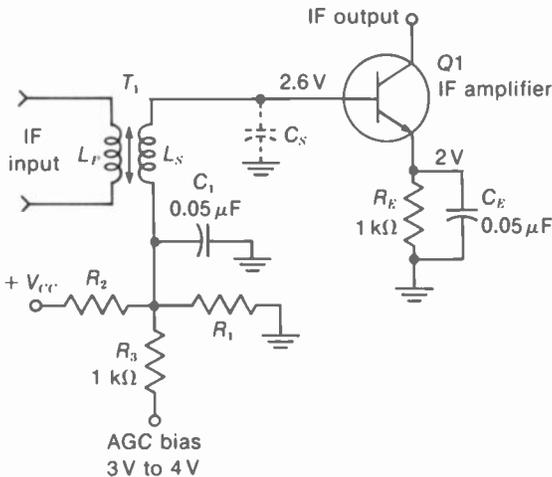

FIGURE 15-4 HOW BASE OF NPN TRANSISTOR IS RETURNED TO AGC LINE. BIAS VOLTAGE HERE IS POSITIVE FOR FORWARD AGC.
**Forward AGC bias with series feed.** See the IF amplifier in Fig. 15-4. When the AGC voltage becomes more positive, it increases the forward bias at the base of the NPN transistor. The  $R_1R_2$  voltage divider provides a fixed positive base bias, from the collector supply  $V_{CC}$ .  $R_3$  is the AGC decoupling resistor, with its bypass  $C_1$ .